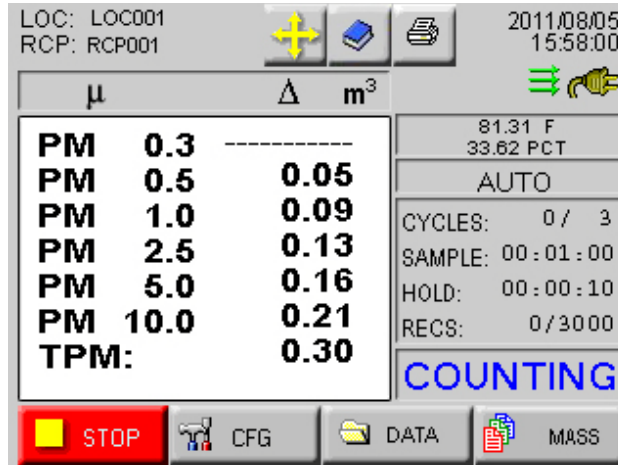

Figure 5-6 Main Screen, Counting mode
- **START/STOP:** Press START button on the screen to start counting. When sampling, the instrument will display "COUNTING" in the lower right portion of the screen as shown in Figure 5-6.